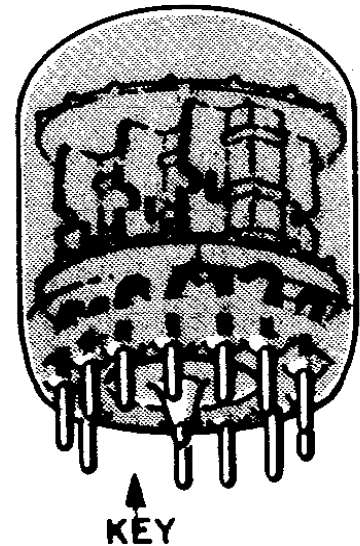

FIG 1
4. Insert the tube into the Compactron Socket with the blank space or key, (see Fig. 1) at the number indicated in the Test Data, and: